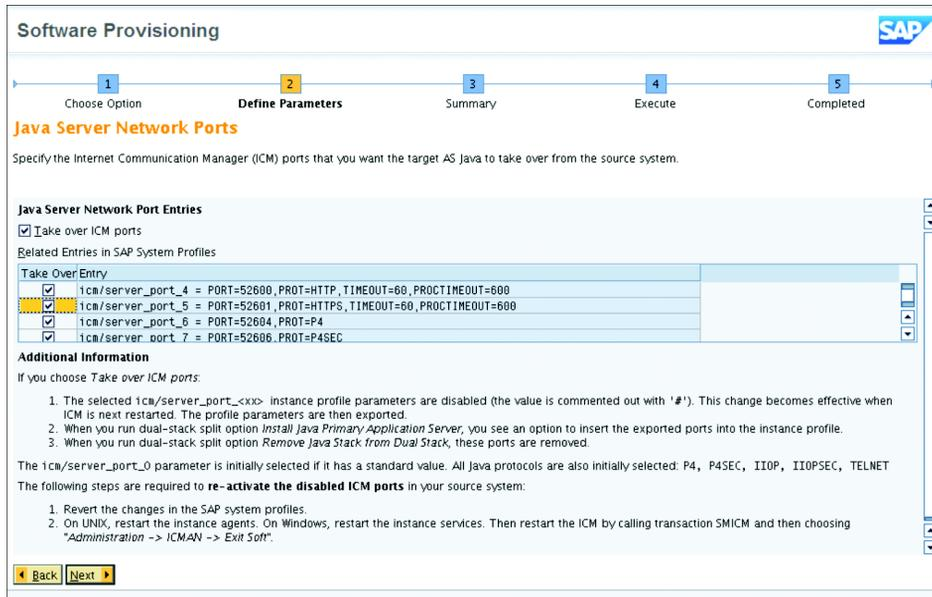

Figure 84 Decide Which Ports To Use
11. As shown in Figure 84, there are options to take over the old ICM ports that are used on the ABAP stack. Select the ports you want the Java stack to take over. This step also provides instructions to revert back if needed, and explains the tasks that will occur with the split operation. Reusing the same ports will minimize the amount of post-steps that need to be done, as the diagnostic agent's reports to SAP SolMan using these ports and many systems may also report to the SLD on the same ports. If they are changed, all of these systems will need to be updated.